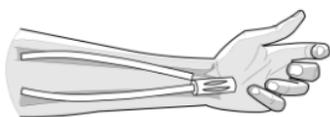

Figure 5. Placement of tunneler sheath for coiled configuration implantation
8.5.3. Insert the fully assembled tunneler sheath into one of the incisions to create a subcutaneous tunnel between the distal and proximal incisions (see figure 5).